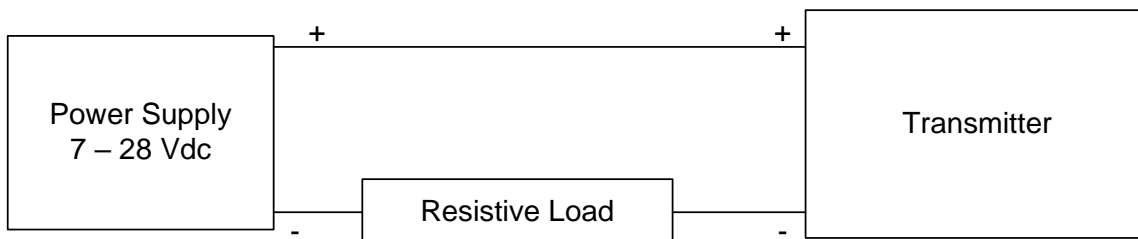

FIGURE 1
**Pressure Connection:** Refer to attached connection drawing Figure 1.
Having installed the transducers as instructed (see figure 1), they are ready for use. Before applying power, check that the correct polarity and excitation levels are being applied. See table 1 for electrical connections.